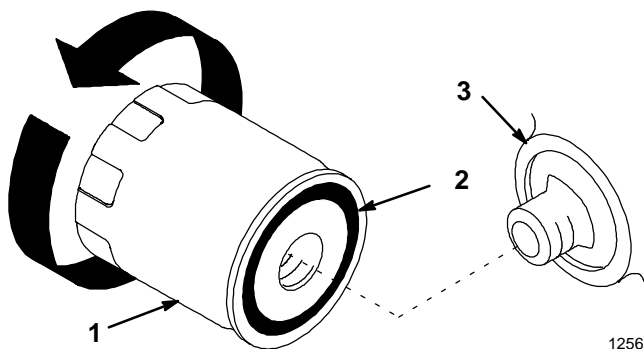

Figure 33
6. Change oil filter (Fig. 33).
2. Remove the old filter and wipe the filter adapter (Fig. 33) gasket surface.
3. Apply a thin coat of new oil to the rubber gasket on the replacement filter (Fig. 33).
4. Install the replacement oil filter to the filter adapter. Turn the oil filter clockwise until the rubber gasket contacts the filter adapter, then tighten the filter an additional 1/2 turn (Fig. 33).